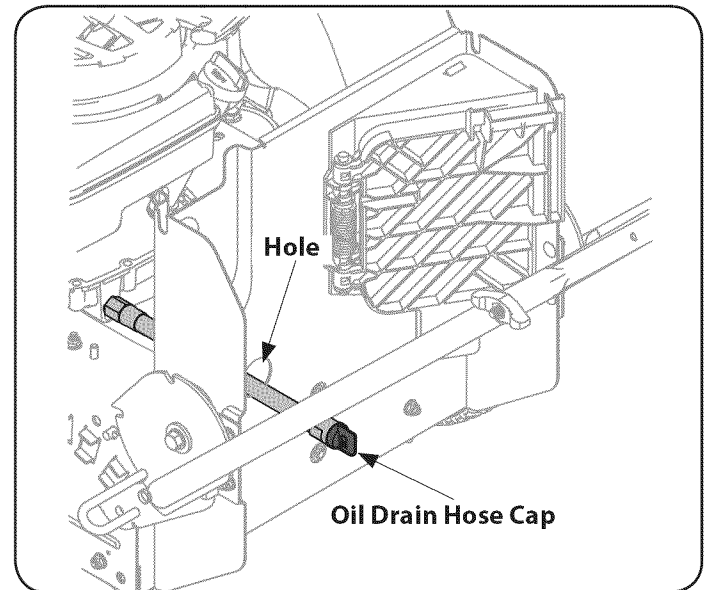

Figure 17
1. Remove the bag from the rear bracket following the instructions in the assembly section of this manual. Let the bagger door close, remove the end of the oil drain hose from its place on the deck and pass it through the hole on the left side of the rear bracket. See Figure 17.